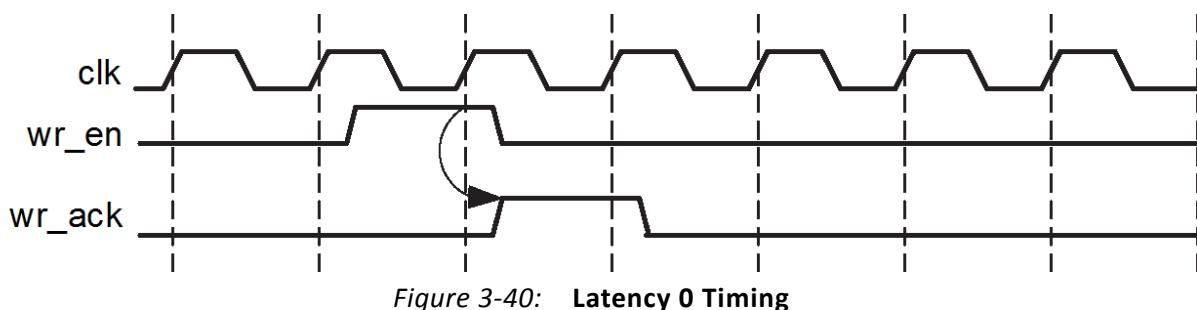

Figure 3-40: Latency 0 Timing
**Note:** Latency is defined as the number of clock edges after a read or write operation occur before the signal is updated. Example: if latency is 0, that means that the signal is updated at the clock edge in which the operation occurred, as shown in Figure 3-40 in which wr\_ack is getting updated in which wr\_en is high.